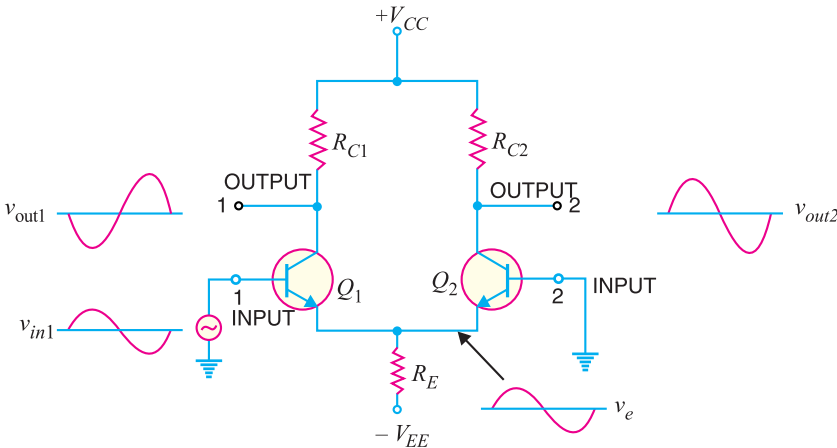

Fig. 25.5
(i) Suppose the signal is applied to input 1 (*i.e.*, base of transistor Q_1) and input 2 (*i.e.*, base of transistor Q_2) is grounded as shown in Fig. 25.5. The transistor Q_1 will act in two ways : as a common emitter amplifier and as a common collector amplifier. As a common emitter amplifier, the input signal to Q_1 (input 1) will appear at output 1 (*i.e.*, collector of Q_1) as amplified inverted signal as shown in Fig. 25.5. As a common collector amplifier, the signal appears on the emitter of Q_1 in phase with the input and only slightly smaller. Since the emitters of Q_1 and Q_2 are common, the
emitter signal becomes input to Q_2 . Therefore, Q_2 functions as a *common base amplifier. As a result, the signal on the emitter of Q_2 will be amplified and appears on output 2 (i.e., collector of Q_2) in phase with the emitter signal and hence in phase with the input signal (signal at input 1). This is illustrated in Fig. 25.5.
- (a) When signal is applied to input 1 (i.e., base of transistor Q_1 in Fig. 25.5), an inverted, amplified signal appears at output 1 and non-inverted, amplified signal appears at output 2. Reverse happens when signal is applied to input 2 and input 1 is grounded.